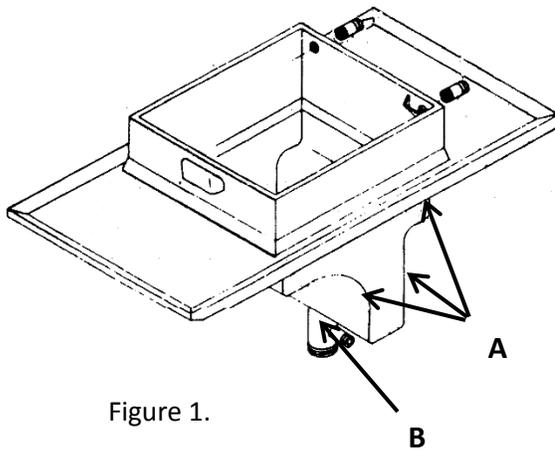

Figure 1.
2. Use a flashlight and inspection mirror to inspect the welds of the fry pot and drain stem weld indicated in figure 1 (PFG-600). For a PFE-500, use a flashlight to inspect the corner welds, drain stem and the pot to countertop welds. If oil accumulation can be seen from a weld, take the fryer out of service until the fry pot is replaced. Contact Henny Penny with any questions regarding fry pot warranty.